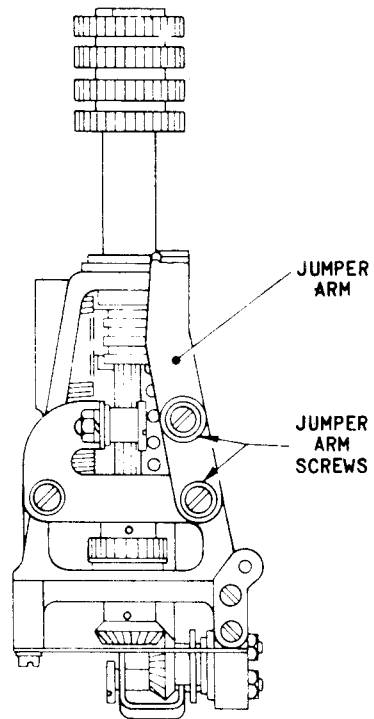

FIG.L.6 RIBBON JUMPER ARM
- 4.2 If this is not so, slacken the two screws securing the jumper arm, Fig.L.6, and adjust the arm until the above condition is satisfied. Tighten the arm screws.